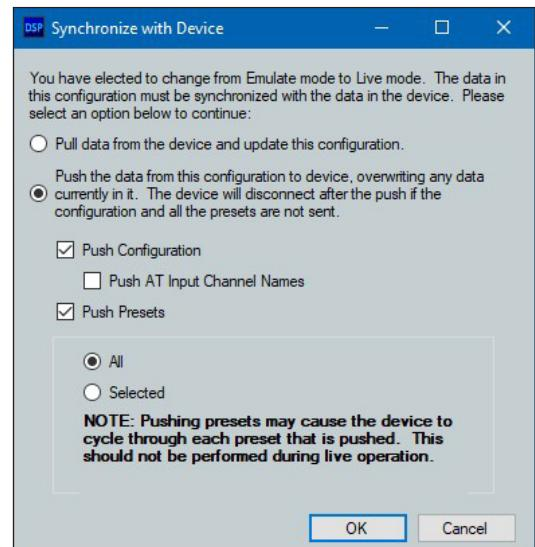

Figure 22. Synchronize with Device
3. When a connection with a device is established, the Synchronize with Device dialog box opens (see figure 22).